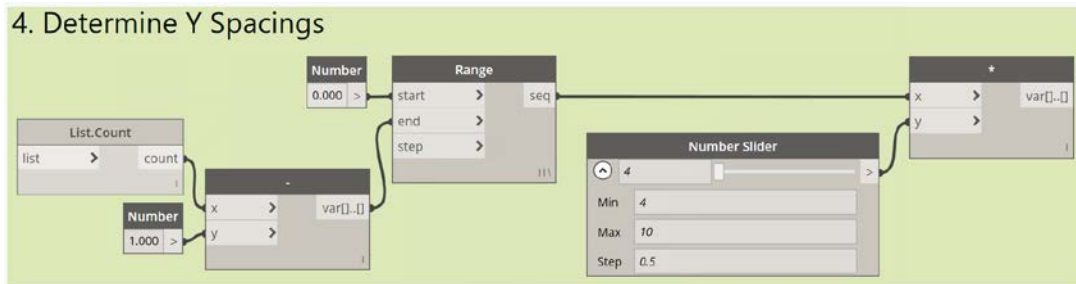

Figure 53
42. Position, wire and group the nodes as indicated in Figure 53.